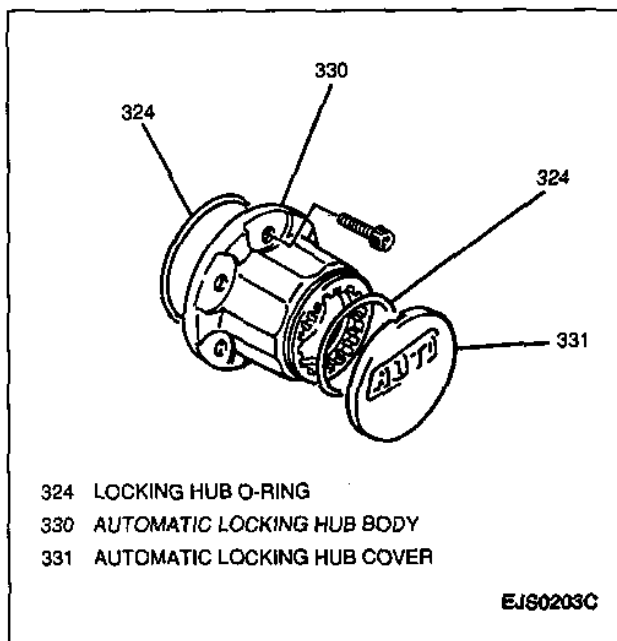

Figure 20—Automatic Locking Hub
**Figures 20 and 21**
2. Locking hub body and O-ring by removing six Allen-head bolts from wheel hub flange (Figure 20).